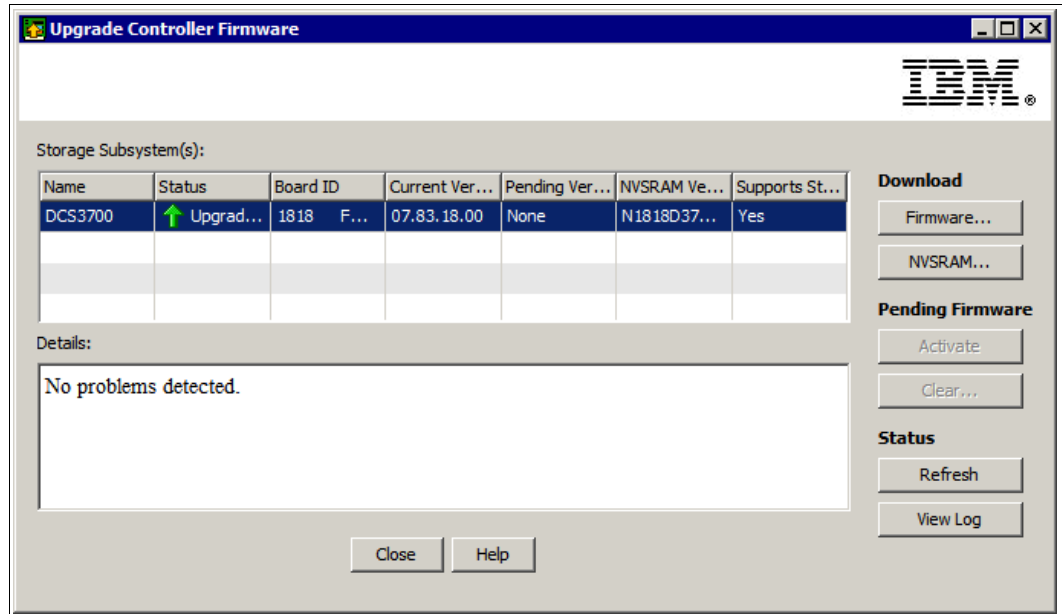

Figure 14-10 Upgrade Controller Firmware
3. If the firmware upgrade tool does not detect any problems that would prevent the upgrade, the tool reports a status of Upgradeable, as shown in Figure 14-10.